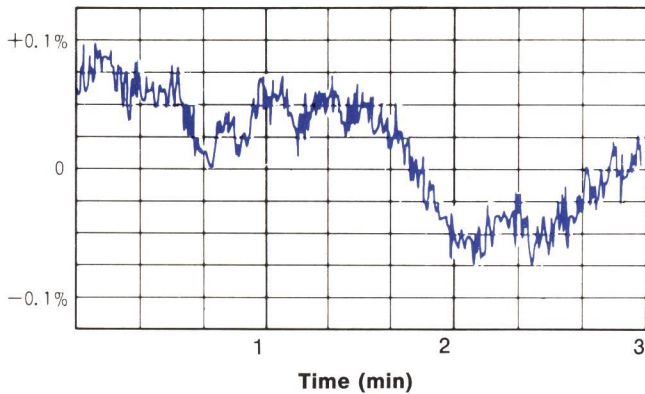

Fig. 15
⑥ BRIGHT CLEAR AND ACCURATE QUARTZ CONTROLLED STROBOSCOPE (Fig. 15)